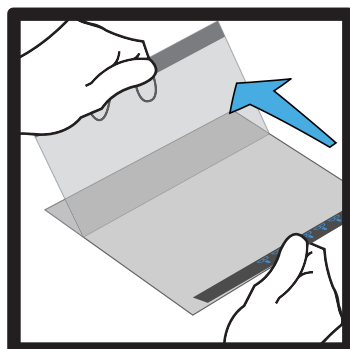
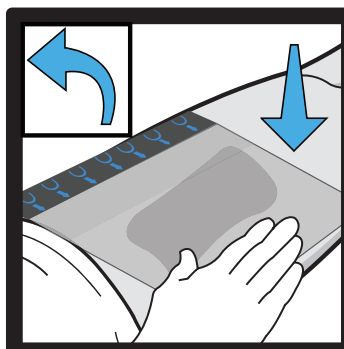

Figure 5
Figure 6
10. Remove the drape's release liner starting with tab A (**Figure 5**). Invert and place over the foam and peri-wound (**Figure 6**) and continue removing the contact layer with tabs B and C (**Figures 7-8**). Remove the remaining perforated tab (**Figure 9**). Gently press drape material down around the wound site and over the foam to ensure dressing is properly sealed.